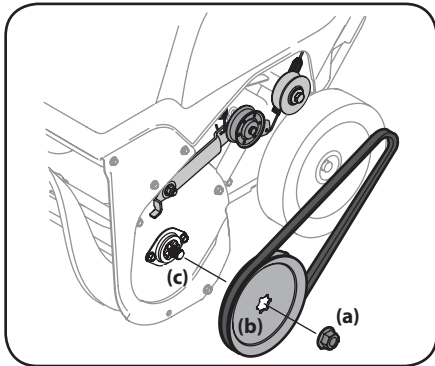

Figure 4-5
- Remove the flange nut (a) that secures the auger pulley (b) to the auger shaft (c). See Figure 4-5.